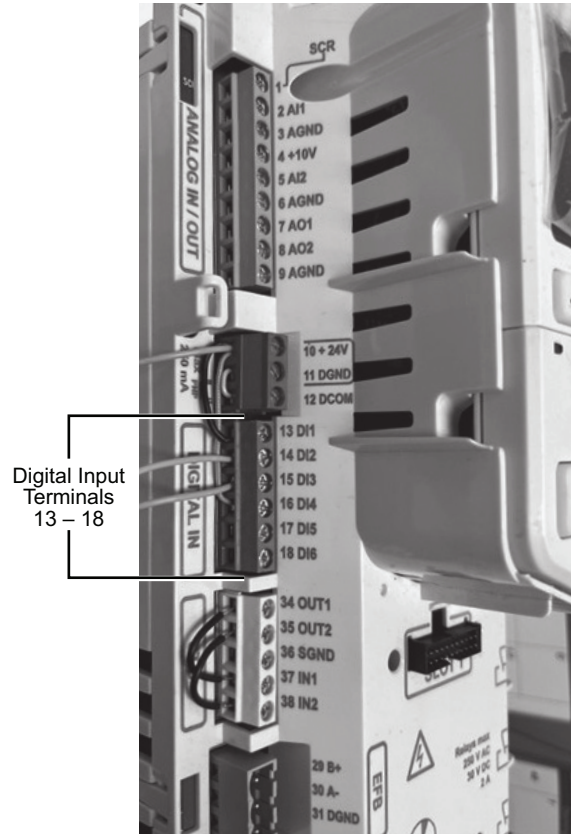

Fig. 59 — Digital Input Terminal Block Location on ACH580 VFD
3. Disconnect the DI1 input at Terminal 13 (see Fig. 59 for location of DI1).